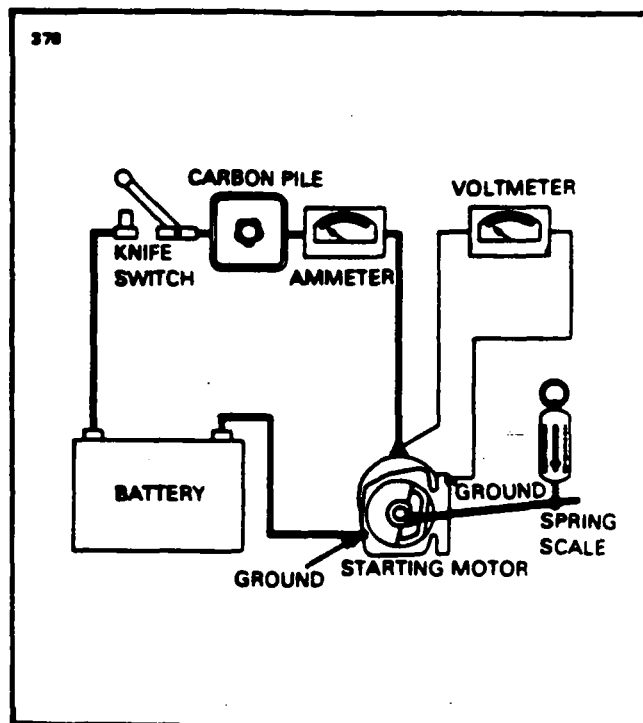

Figure 80-6. Stall-Torque Hook-up
2. If no difficulty is indicated in the above test, a stall torque test may be made to see if the starting motor is producing its rated cranking power. Make test connections as shown in Figure 80-6.